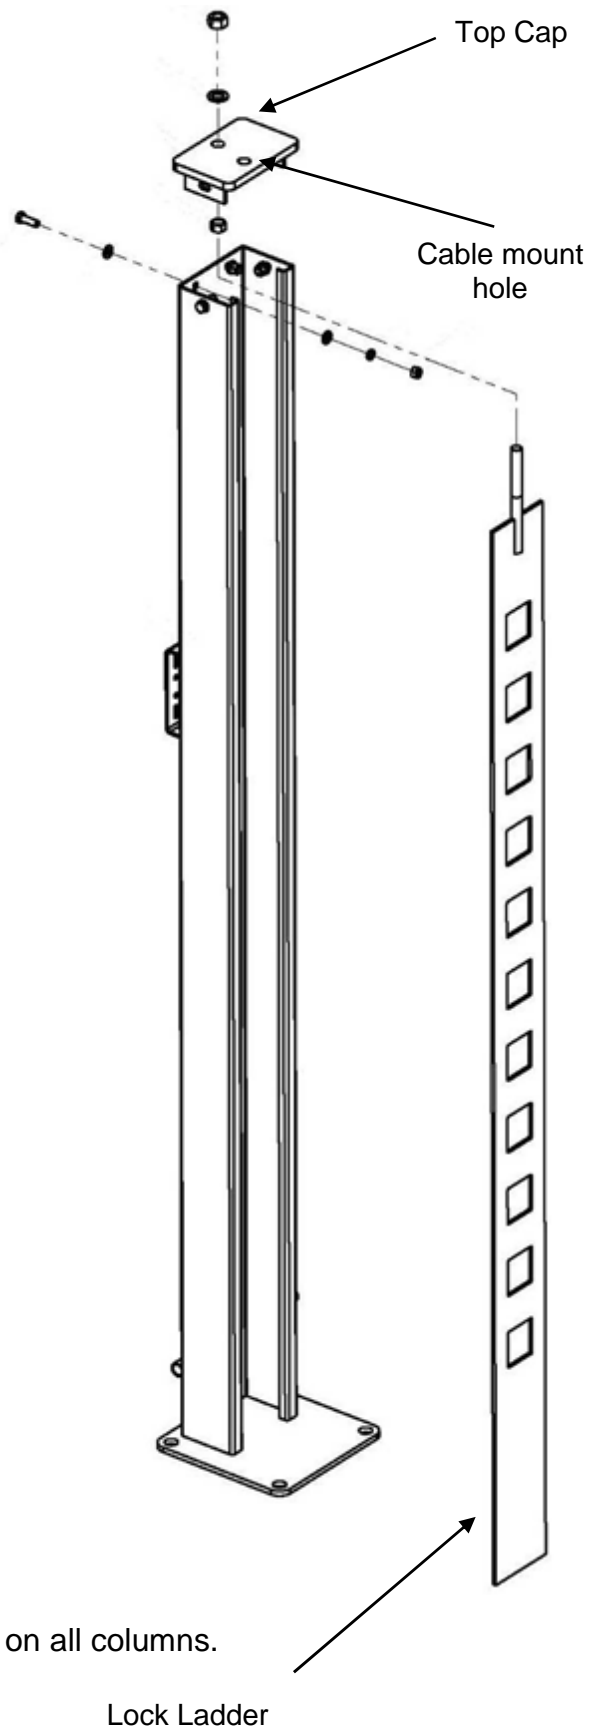

Fig. 5
11. Unpack the Lock Ladders (#11) (Fig. 5) from the package and slide them into the precut slot on the Rub Blocks (#67) inside each column. After removing the top Nut from the Lock Ladder, you are ready to install the Top Caps A&B (#10 & #65) on the columns.
12. Be aware of the offset hole in column's Top Caps. Arrange Top Caps so that the cable mounting holes are closest to the runways. Use provided Bolts, Nuts, Washers and Lock Washers to install Top Caps, as shown in Fig.5 & 5b.